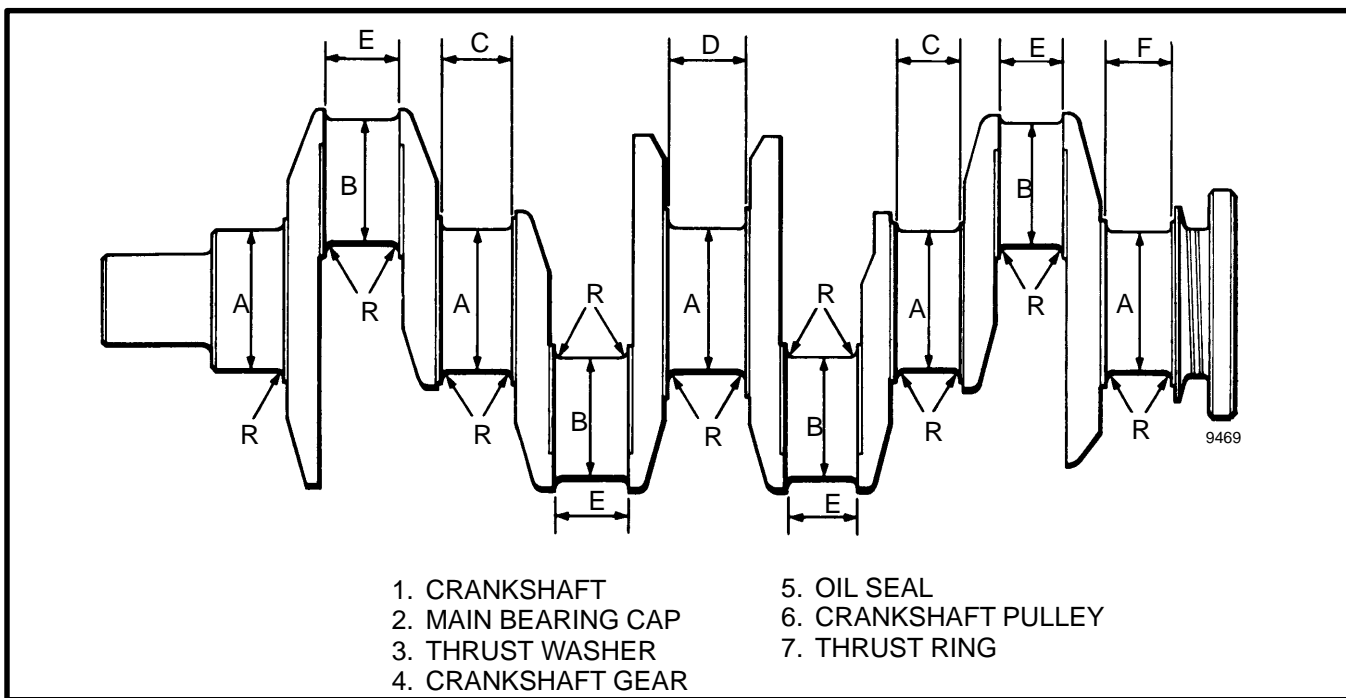

FIGURE 23. CRANKSHAFT SPECIFICATIONS
2. Measure the bearing surfaces of the crankshaft. Each bearing surface must be measured four times. Measure at each end of the bearing surface and then measure at positions 90° from the first positions. The bearing surfaces must not be worn more than 0.04 mm (0.0015 in). See FIGURE 23. for the specifications.